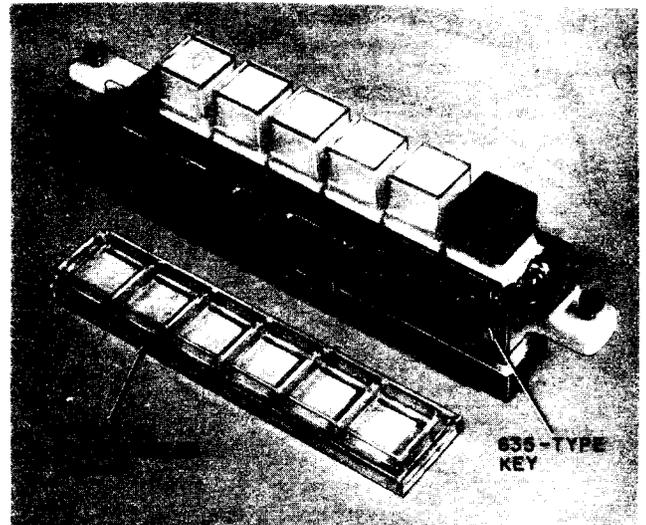

Fig. 10—Current Production 635-Type Key and Collar
- (3) Position key in key frame making certain that latch arm engages in the pivot bar.
- (4) Secure key with captive screws at top and bottom of key.
- (5) Test keys for proper operation (random test from module to module).
- (6) Remove caps and install key designation numbers.
- (7) Replace caps.
- (8) Install proper collar furnished with 635-type keys. Early production keys have rectangular buttons, and current production keys have square buttons (Fig. 10) making the collars incompatible.